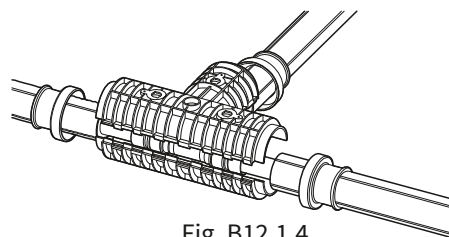

Fig. B12.1.4
3. Join the half-shells by clicking all locking plugs (Fig. B12.1.4).